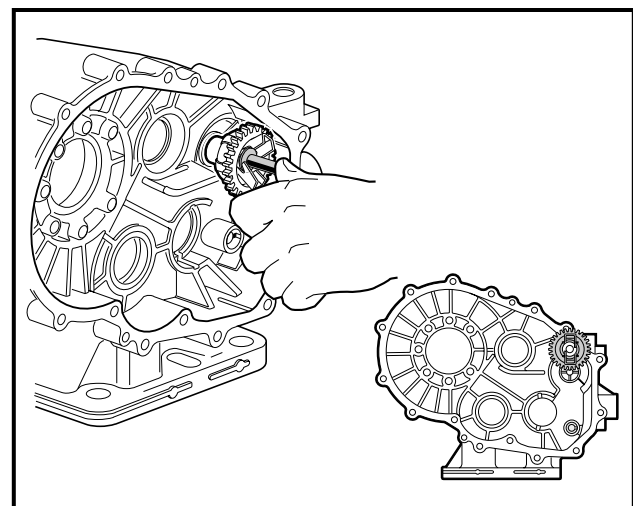

Figure 16b-80 Install Governor Gear
6. Install the shifter shaft into the left (driver side) case as shown (**Figure 16b-82, Page 16b-36**). Then install the washer and using external snap ring pliers (0.070 tip), install retaining ring on the shifter shaft outside of the case. Make sure the retaining ring is in the groove of the shaft.